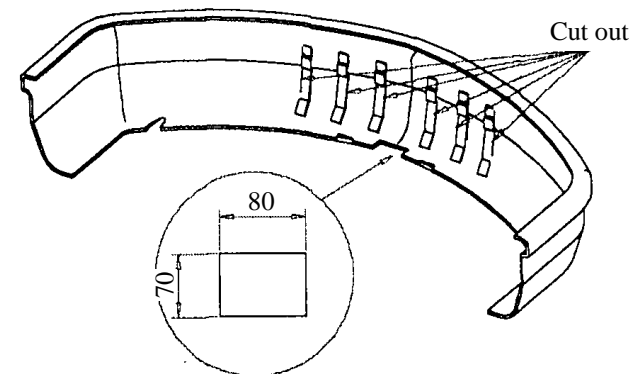

Fig. 2
3. Put main bar of the towbar (pos. 1) to the car and in places original tow handles fix it using original bolts.
4. Cut out fragments of the bumper (see fig. 2). Fragment 80x70mm - in lower part in axis of the bumper.
5. Fix body of the automat (pos. 5) and the socket plate (pos. 3) using bolts M12x25mm (pos. 4) from accessories. Place tow-ball (pos. 2) according to supplied instruction.